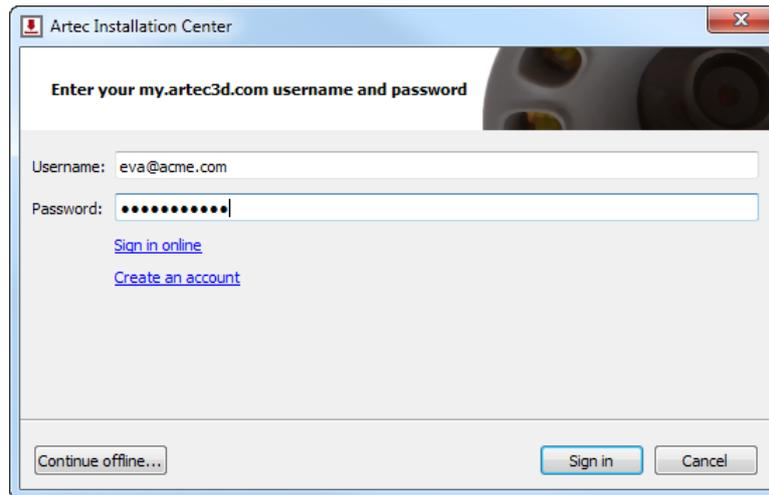

Figure 9: Authentication for Artec Installation Center
2. After downloading, open the folder that contains the executable and run it. Follow the instructions on the installation screens. Once Artec Installation Center is installed, you will see a dialog requesting your email address and password. Use your *my.artec3d* account to log in as *Figure 9* shows.
If you have yet to install Artec Installation Center, a login dialog will appear, as Figure 9 shows. If you are not connected to the Internet, consult Offline Activation regarding offline activation of Artec Studio.